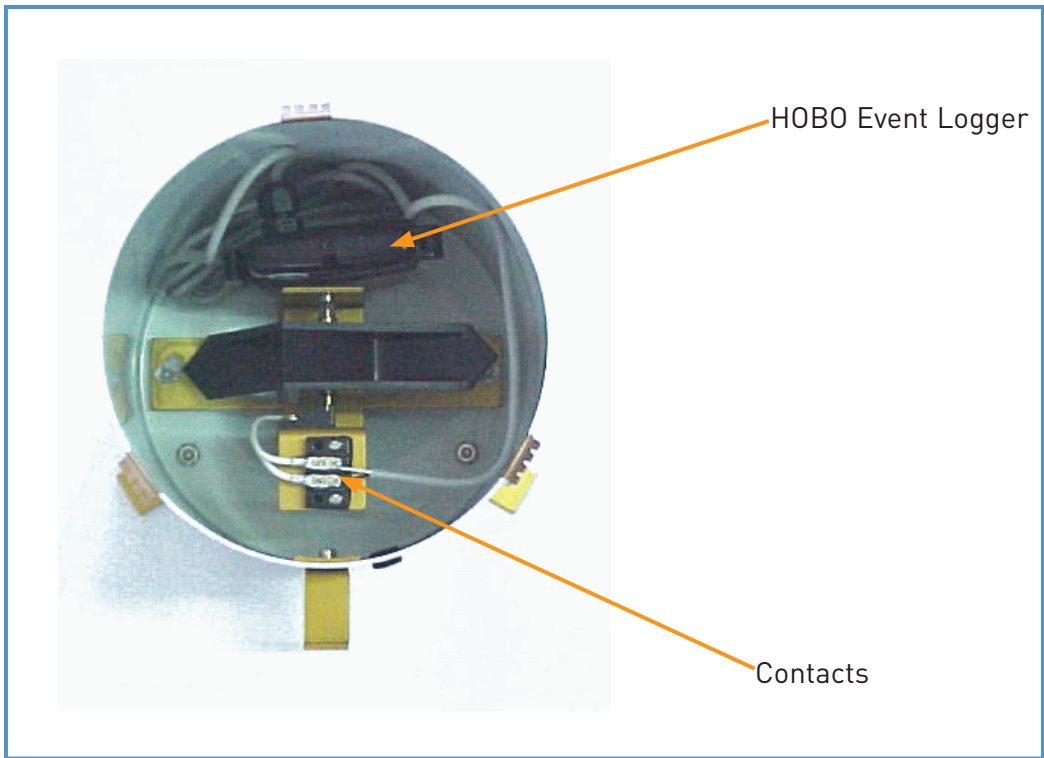

Figure 9: Top View of Tipping Bucket Rain gauge Connected to a HOBO Event Logger Placed inside
- Place the HOBO Event Logger inside the raingage; make sure the cable does not obstruct the tipping mechanism. The completed installation is shown in figure 9.